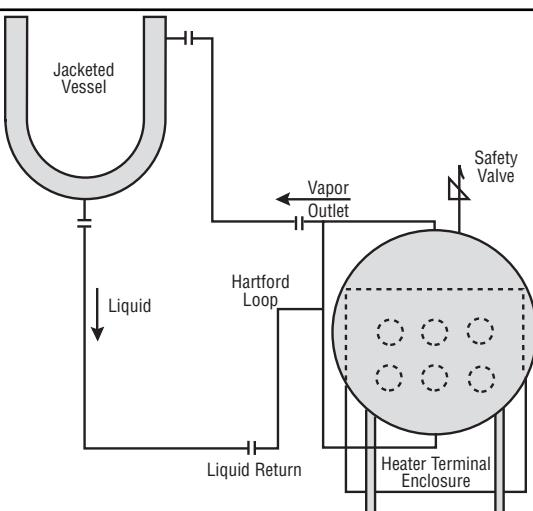

Figure 1
A. **Gravity return type:** The simplest and most easily operated type of vaporizer is one in which the condensate from the heating equipment is returned to the vaporizer by gravity, thus providing a system without moving parts. Such a system is possible if there is sufficient difference in elevation between the process and the vaporizer so the static liquid head will counter-balance all frictional losses in the vaporizer, vapor piping process and condensate return piping without flooding the heated equipment. See Figure 1 for a typical schematic piping diagram.
A Hartford Loop consists of a line without valves outside of the vaporizer connecting the vapor outlet and the condensate inlet. The condensate return line is connected to the vapor-condensate line or loop at the same elevation as the lowest permissible level in the vaporizer. Thus, a vacuum in the heated equipment can then pull liquid from the vaporizer (or a closed valve in the vapor line can force liquid from the vaporizer) only until the level in the vaporizer falls to the level of this connection. Also, the resultant liquid hammering will give warning that the liquid level in the vaporizer is too low. (See Figure 1 below.)